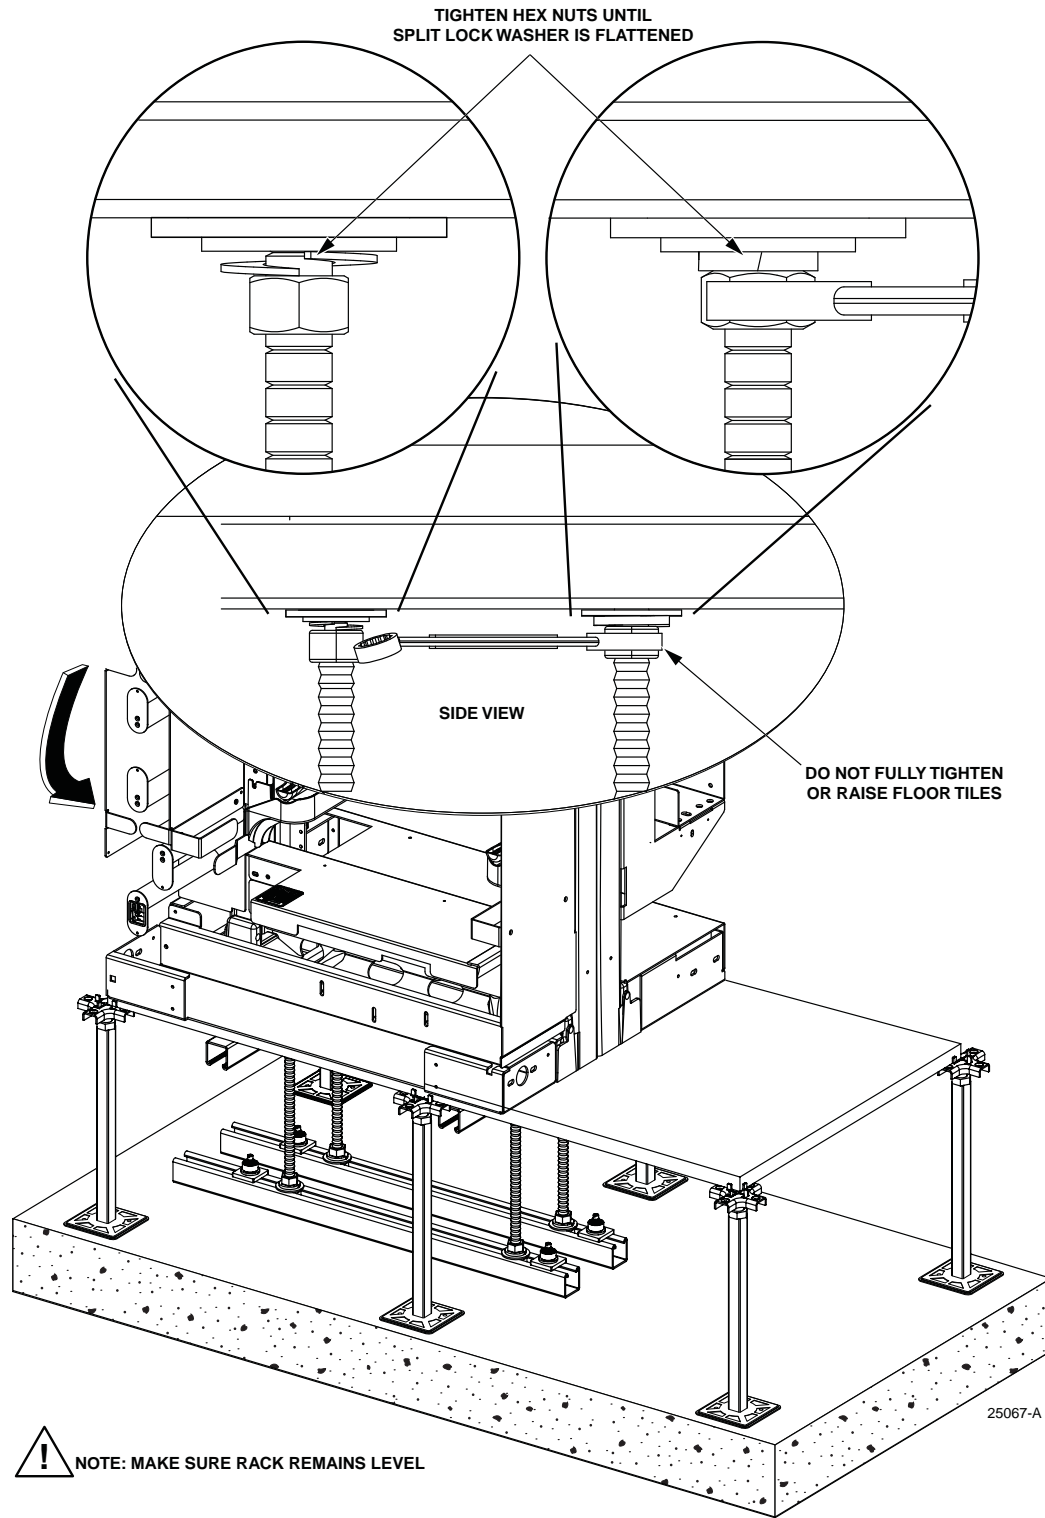

Figure 24. Tightening Hex Nuts 1
23. Use wrench to tighten hex nuts under floor tile. Do not fully tighten. Refer to Figure 24.